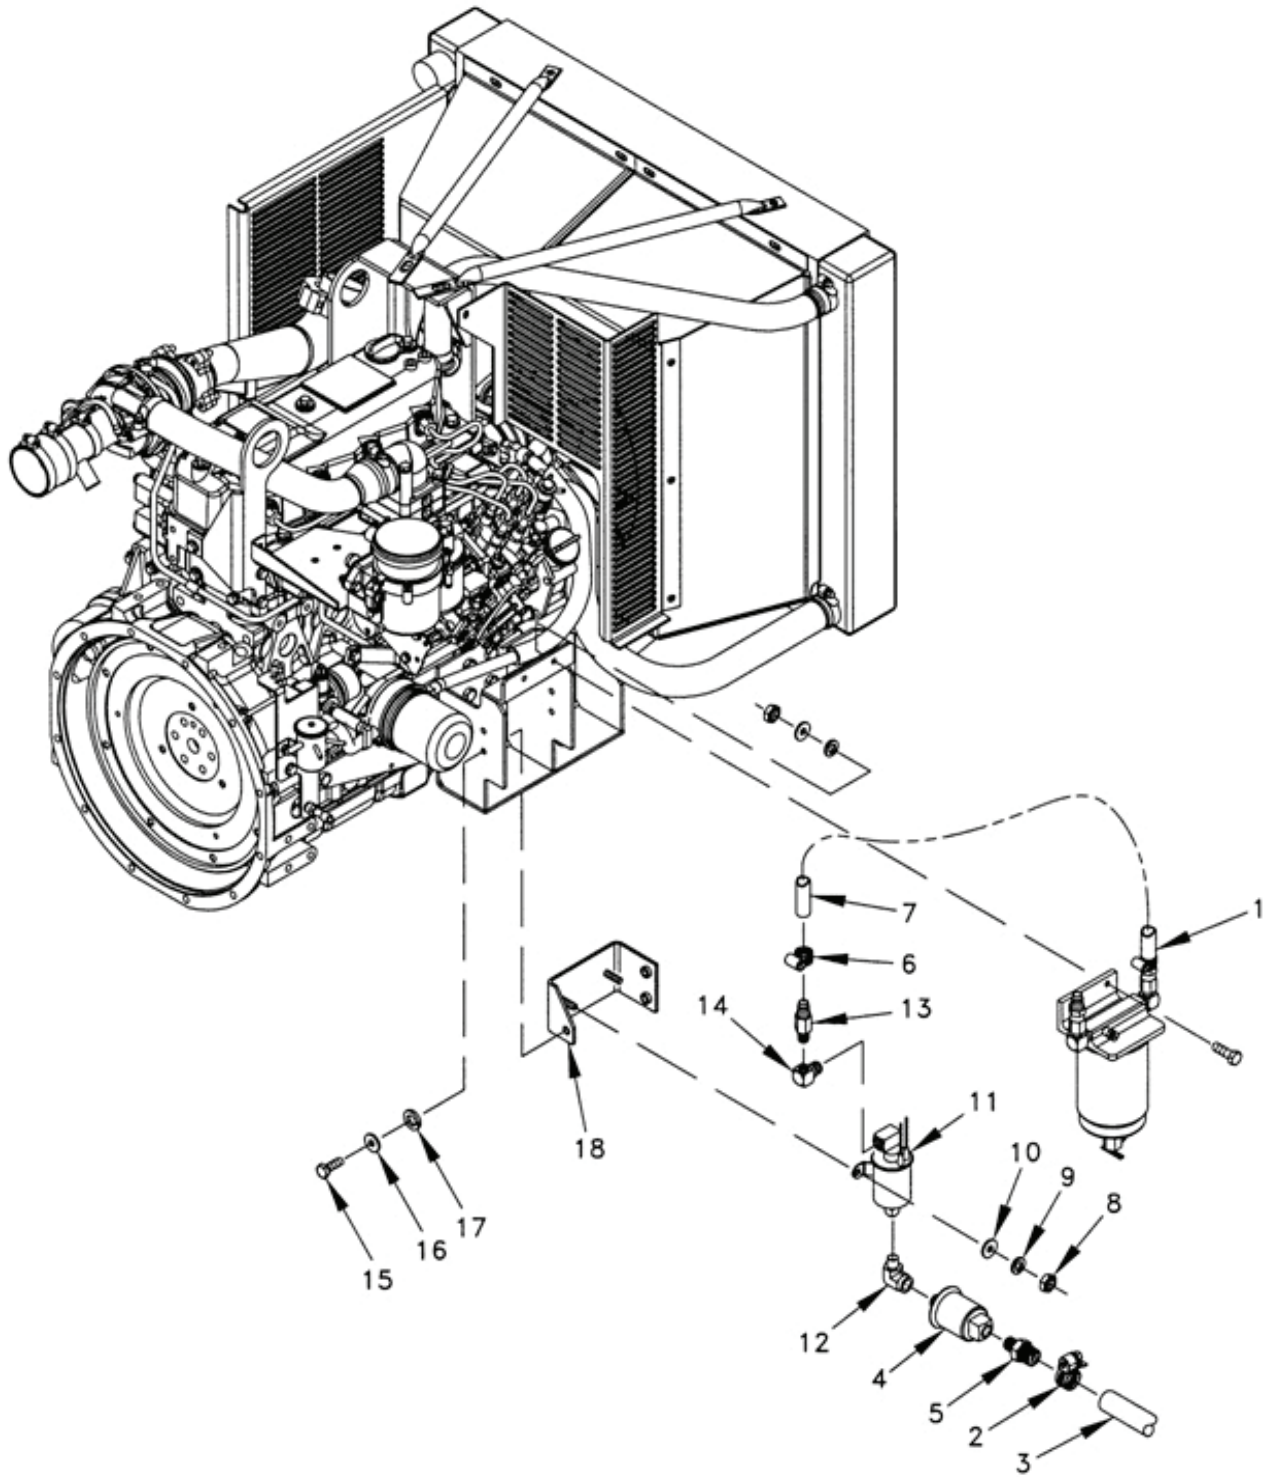

Figure 2-32. Fuel Transfer Pump – MEP-804B/MEP-814B.
- c. Disconnect fuel transfer pump connection at fuel/water separator (1, Figure 2-32) and place disconnected end in measuring container.
- d. Loosen clamp (2, Figure 2-32) and disconnect hose (3) from fuel filter (4).
- e. Remove fuel filter (4) from fuel transfer pump (11) and fitting (5) from fuel filter, as required.
- f. Loosen clamp (6) and disconnect hose (7) from top of fuel transfer pump (11).
- g. Tag and disconnect wiring from fuel transfer pump (11).
- h. Remove fuel transfer pump (11) by removing nuts (8), lock washers (9), and washers (10). Discard lock washers (9).
- i. Remove elbow (12) from fuel transfer pump (11), as required.
- j. Remove fitting (13) and elbow (14) from fuel transfer pump (11), as required.
- k. Remove bracket (18) by removing bolts (15), lock washers (16), and washers (17). Discard lock washers (16).
- a. Install bracket (18, Figure 2-32) with bolts (15), new lock washers (16), and washers (17).
- b. Install elbow (14) and fitting (13) to fuel transfer pump (11), as required.
- c. Install elbow (12) to fuel transfer pump (11), as required.
- d. Install fuel transfer pump (11) with nuts (8), new lock washers (9), and washers (10).
- e. Install wiring to fuel transfer pump (11). Remove tags.
- f. Connect hose (7) to top of fuel transfer pump (11).
- g. Tighten clamp (6).
- h. Install fuel filter (4) to fuel transfer pump (11) and install fitting (5), as required.
- i. Connect hose (3) to fuel filter (4) and tighten clamp (2).